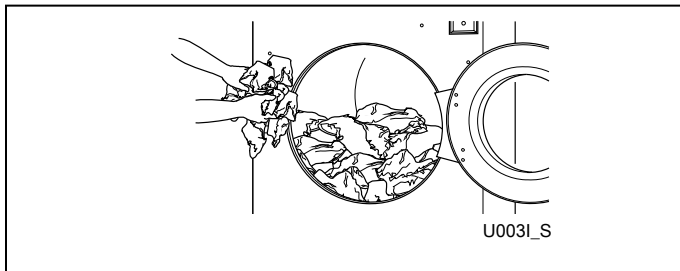

Figure 54
3. Load to capacity whenever possible. DO NOT OVERLOAD. Refer to *Figure 54*.